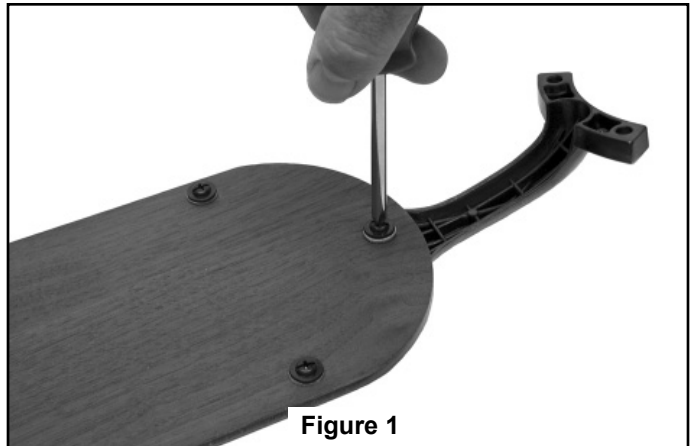

Figure 1
1. Wrap the belting around the two pulleys that will be connected and overlap the belting as shown. Use the spring clamps provided to hold the belting in place temporarily. With the clamps remaining in the same place, grasp both ends of the belting and pull tight. The clamps should hold the belting together after releasing the belt. (Figure 1)
1. Mount the wooden blades on the blade holder with three screws and three fiber washers. (Figure 1)